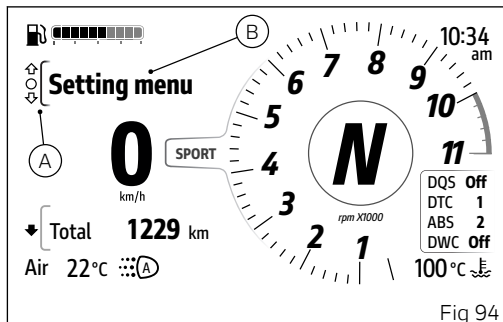

Fig 94
- Select the Interactive Menu (A, Fig 94) by pressing and holding button (1) pressed for a long time.
- Use buttons (1) and (2) to select item "Setting menu" (B, Fig 94) and press the ENTER button (3).